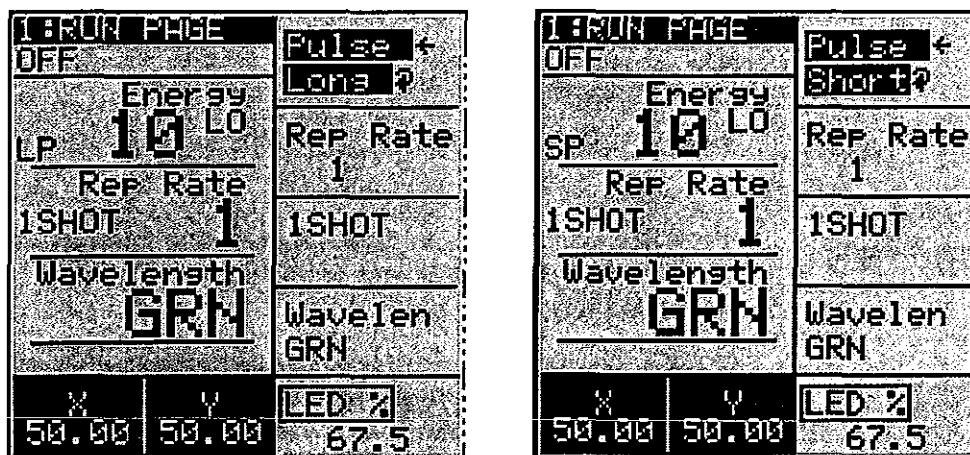

Figure 3-5: Run Page with Long Pulse and Short Pulse selected
- 12) Carefully place the o-rings over the flash lamp and slide them into place using tweezers, Figure 3-5. Reinstall the pump chamber end caps and carefully tighten the screws to hold the lamp in place. The flash lamp leads should come straight up from the pump chamber.